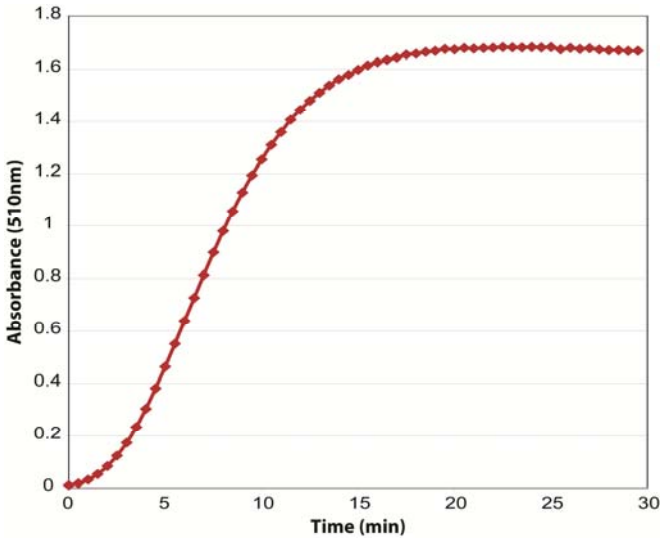
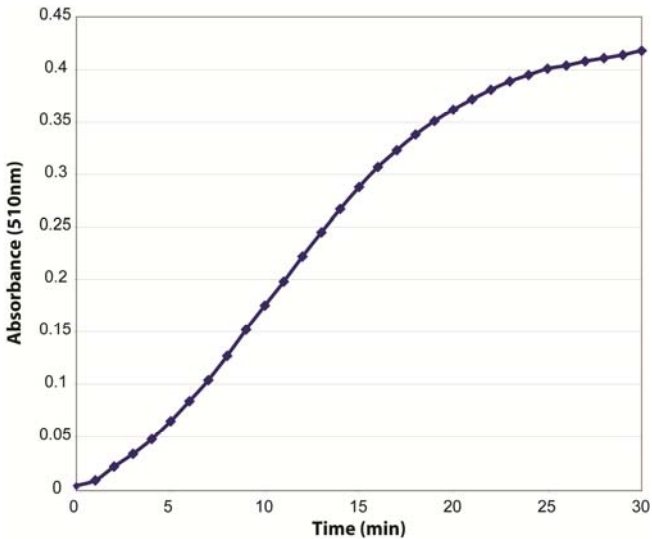

Figure 2: SAM510 Assay quantitatively assays the Positive Control: 50 μ M Adenosylhomocysteine (AdoHcy).
Figure 3: Human lysine specific histone Methyltransferase SET7/9 assayed with 20 μ M TAF-10 as the acceptor substrate.
- i. Either, plot the absorbances against time to obtain the slope (rate) of the linear portion of the curve. See figure 2 for a plot with the AdoHcy positive control and figure 3 for an example using humane lysine specific histone Methyltransferase, SET7/9). Subtract the background control from your samples and positive control and then plot a curve of time (minutes) against absorbance. The rate of the enzyme activity can be characterized by the absorbance increase per minute.